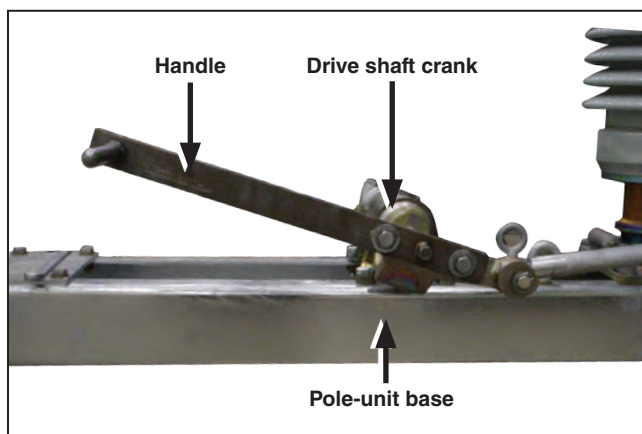

Figure 21. Attach the TEMPORARY MANUAL OPERATING handle to the drive-shaft crank.
**STEP 1.** Bolt the TEMPORARY MANUAL OPERATING handle to the disconnect drive-shaft crank. See Figure 21.